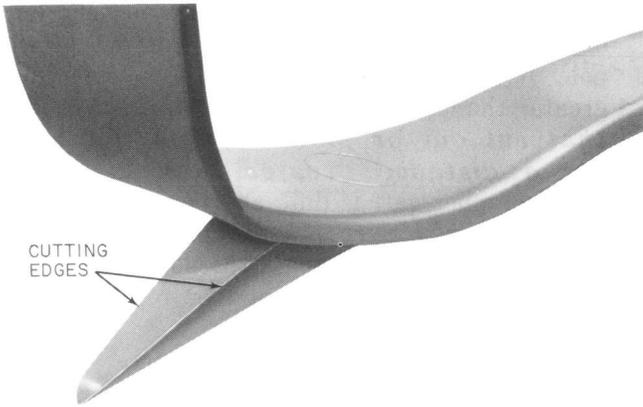

Fig. 16—Gaff Cutting Edges
7.01 During normal use of climbers the edges along inner surface (cutting edges), Fig. 16, may become dull. The honing stone should be used to maintain sharp edges. Remember that even a dull gaff can cut your finger so hone carefully.